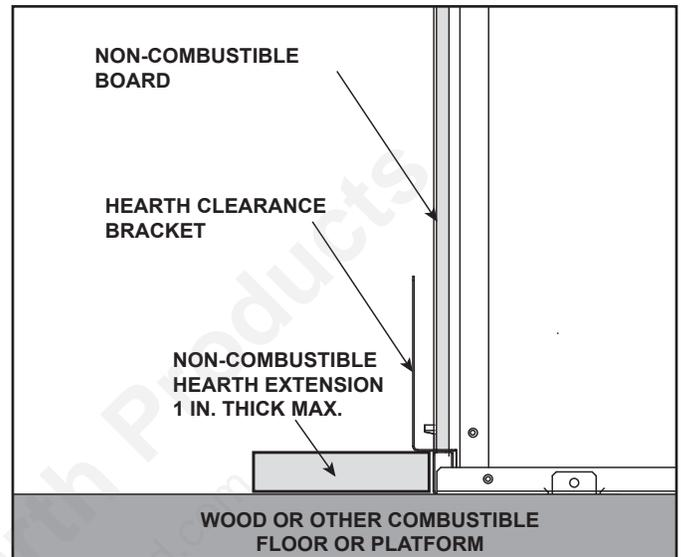
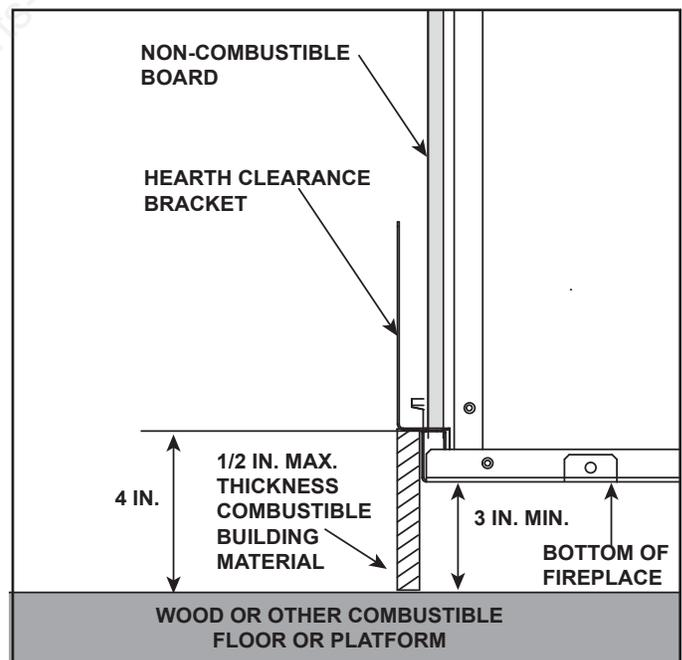

Figure 3.10 Appliance Installed on Combustible Surface Non-Combustible Hearth Extension REQUIRED.
Figure 3.11 Appliance Raised a Minimum of 3 Inches Above Combustible Surface. Non-Combustible Hearth Extension NOT REQUIRED.
- Hearth extension must be non-combustible and serves to protect combustible floors in front of appliance. See Figure 3.9 and Figure 3.10.
- The base of the fireplace may sit on a combustible surface. See Figure 3.10. The area in front of the appliance must be protected by a non-combustible hearth extension, unless the appliance is raised a minimum of three inches above the combustible floor or hearth. See Figure 3.10 and Figure 3.11.
- If a hearth greater than one inch in thickness is desired, the appliance must be raised by the equivalent height to ensure that the hearth extension does not interfere with the installation of the glass assembly required for fireplace operation. See Figure 3.10.